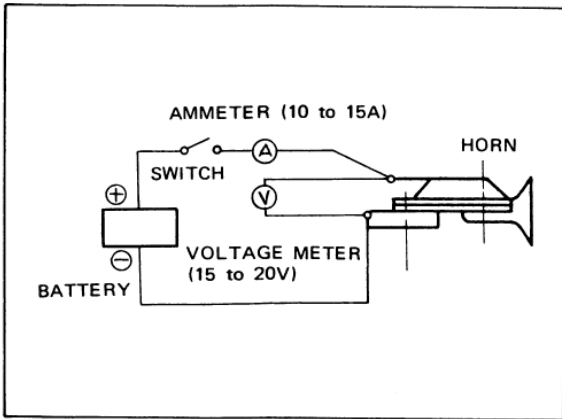

Fig. BE-19 Circuit for horn adjustment
1. Secure horn in a vise, and connect horn cables to power supply. See Figure BE-19.